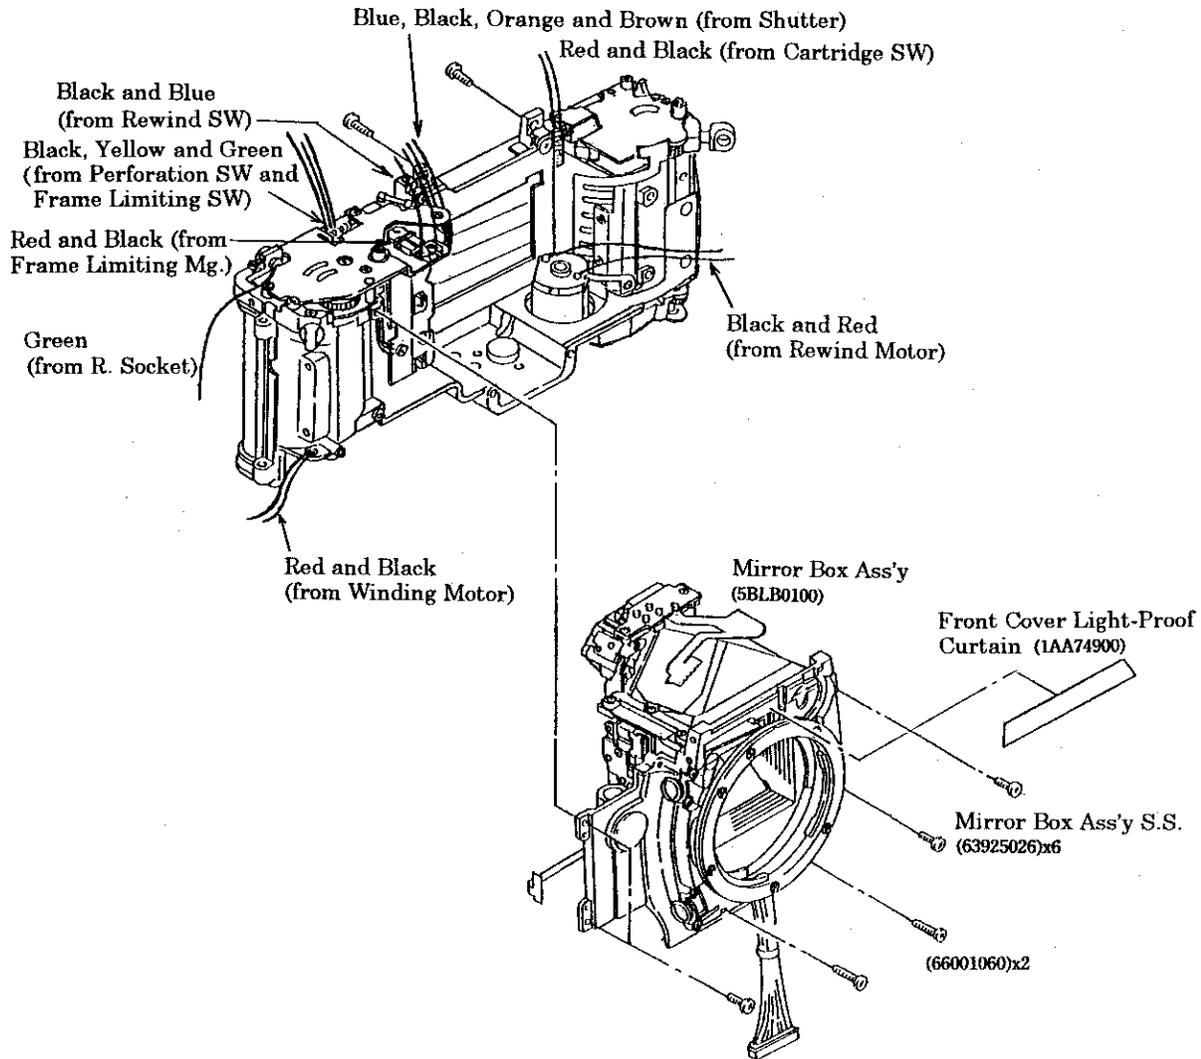
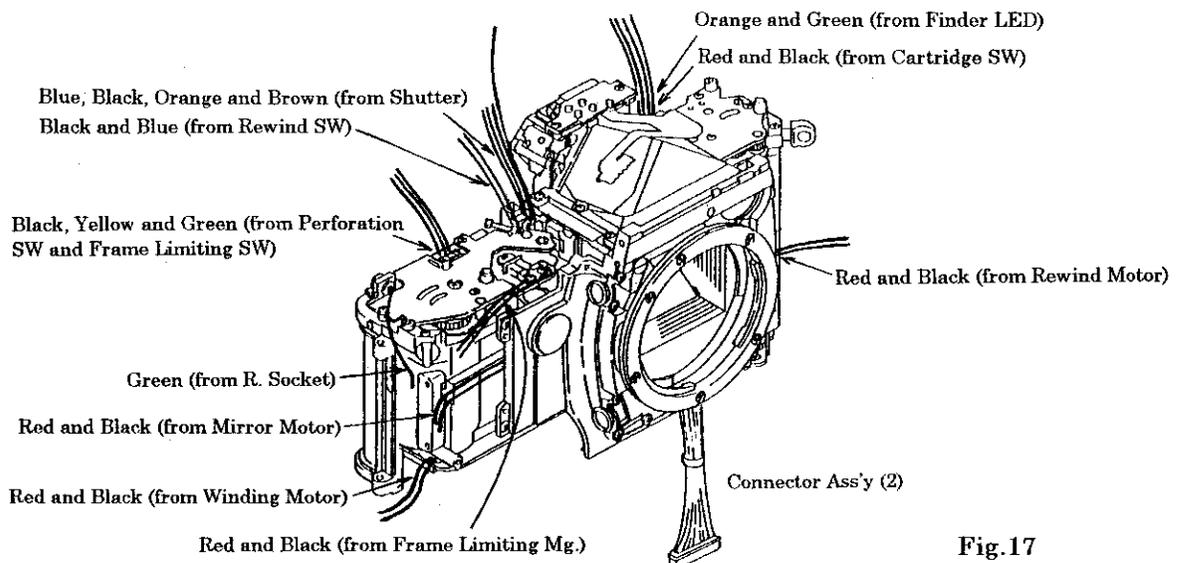

Fig.15
Fig.17
- a) The lead wires connected to the Body and those connected to the Mirror Box Ass'y must be placed out of the Body as shown in Fig. 15. And when installing the Mirror Box Ass'y, take care not to catch any lead wires or FPC between the Body and the Mirror Box Ass'y. Make certain that the lead wires are placed out as shown in Fig. 17.